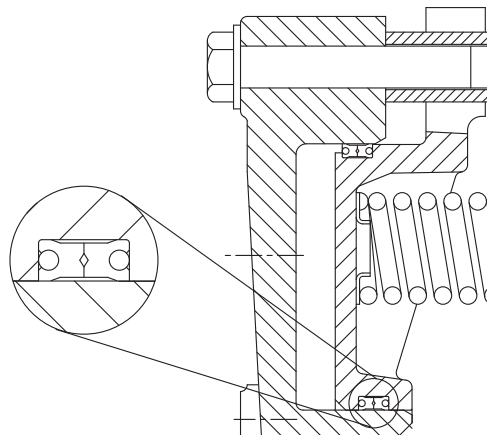

Figure 17
- 4.6.4 Insert new seals into the grooves, noting the orientation of the seals per Figure 17.